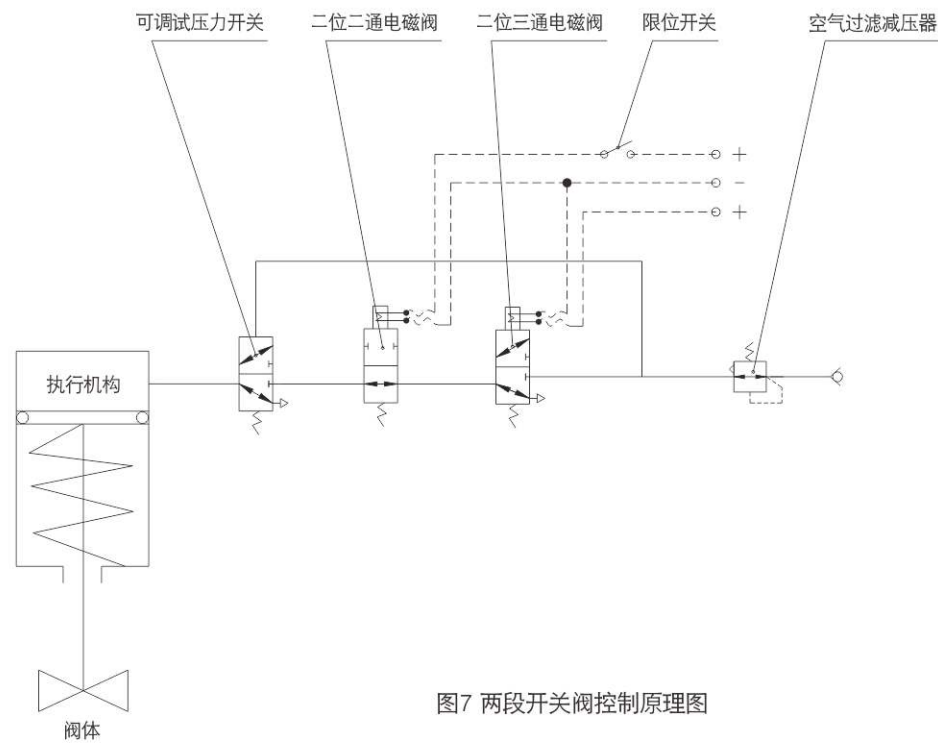

图7 两段开关阀控制原理图
2.1、两段式控制执行机构由一个直动式二位三通、一个直动式二位二通电磁阀、一个可调式压力开关和一个限位开关来控制。控制原理图见图7。二位二通电磁阀为常通型，二个电磁阀串联。其中二位二通电磁阀与限位开关电源线串联。其原理是通过限位开关的开启或闭来控制二位二通电磁阀，从而实现阀门多种控制。见表2电磁阀控制原理逻辑图。当两个电磁阀同时断电或气源故障时，阀门在执行机构弹簧力作用下实现FC或FO。
2.1. The two-section control actuator is controlled through a direct-acting two-position three-way solenoid valve, a direct-acting two-position two-way solenoid valve, an adjustable pressure switch and a limit switch. See figure 7 for the control schematic diagram. The two-position two-way solenoid valve is of normal open type. The two solenoid valves are connected in series. The power cords of two-position two-way solenoid valve and limit switch are connected in series. The principle is that the two-position two-way solenoid valve is controlled through turning on or off the limit switch, so as to realize multiple controls of the valve. See table 2 for the control principle logic diagram of solenoid valve. When the two solenoid valves are powered off or have air supply failure simultaneously, the valve will realize FC or FO under the action of the actuator spring force.